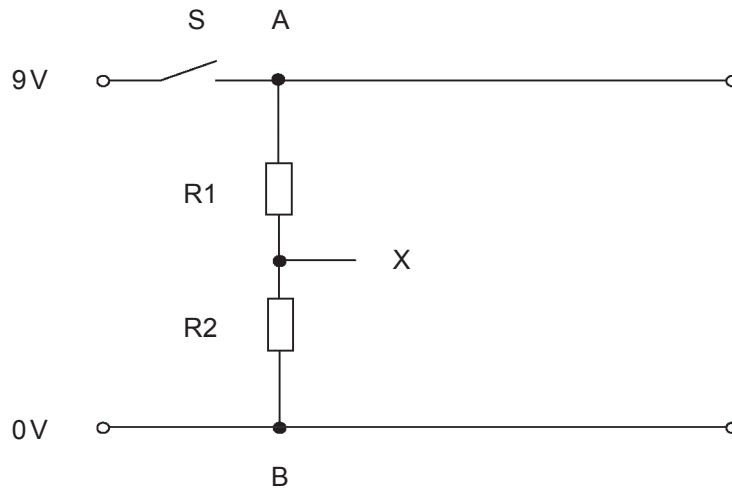

Fig. 5
- (d) A circuit is shown in **Fig. 5**. The power supply required is 9V. Resistor R1 has a value of $1.8\text{ k}\Omega$ and resistor R2 has a value of $2.2\text{ k}\Omega$.